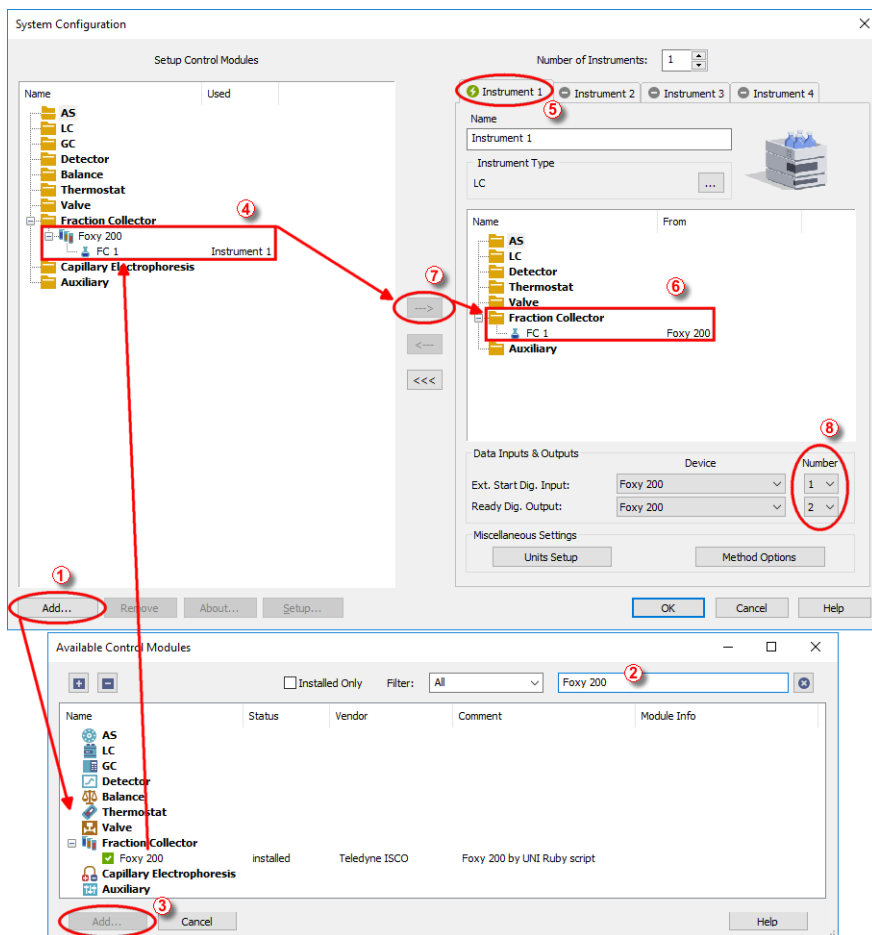

Fig 3: How to Add Foxy 200 Control Module
- Press the **Add** button (① on 3.2 on pg 5.) to invoke the **Available Control Modules** dialog.
- You can specify the search filter (②) to simplify the finding of the driver.
- Select the correct item and press the **Add** (③ on **Fig 3** on pg 5.) button. Each device with already created profile should have its own item named accordingly in the **Available Control Modules** dialog.